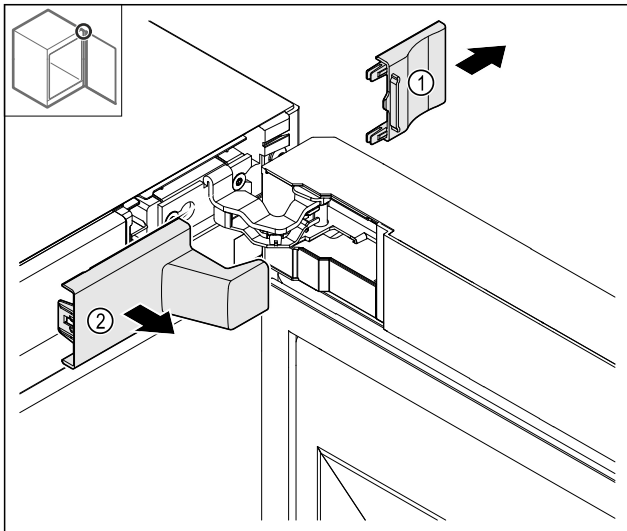

Fig. 15
- Remove the cover Fig. 15 (1) and then Fig. 15 (2).